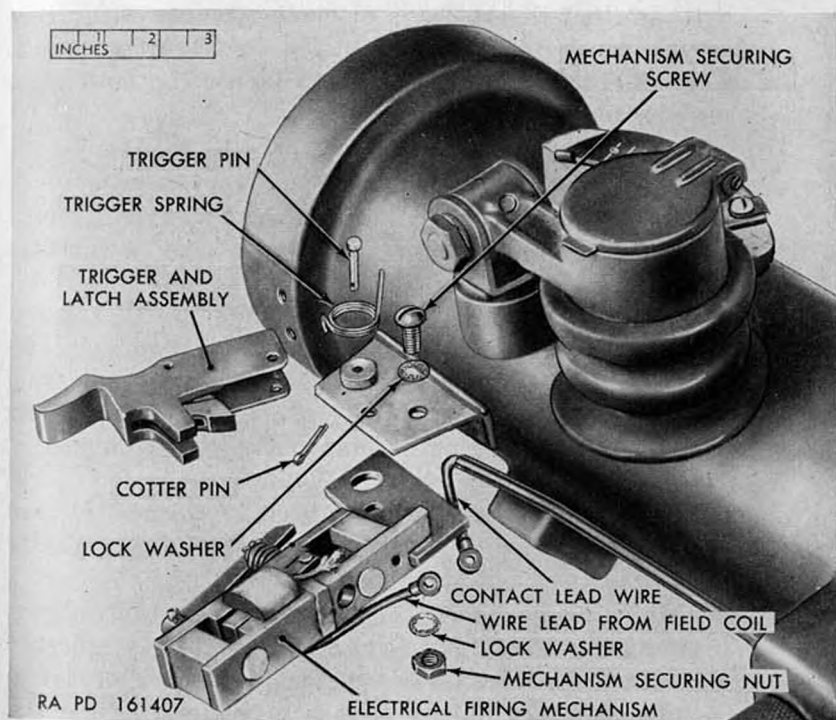

Figure 38. *Electrical firing mechanism 7140325 (removed from barrel).*
b. *Electrical Firing Mechanism 7140325 (Double Action)* (fig. 38).
- (2) Remove the cotter pin from the trigger pin and withdraw the trigger pin (fig. 38). This frees the trigger and latch assembly. Take care not to drop the trigger spring.
- (3) Unscrew the mechanism securing screw and nut which secure the firing mechanism to grip support of the rear barrel, take care not to drop the two lock washers.
should be checked for accumulation of dirt in the trigger slot; check the trigger spring (fig. 38) for serviceability. Firing mechanisms which have loose components, such as magnets or other critical parts, will be removed and returned to ordnance rebuild installations if otherwise serviceable.
b. Adjustment of Electrical Firing Mechanism 7140325 (fig. 38).
- (4) Oil the firing mechanism in accordance with paragraph 35d.
- (5) Install the safety switch in the left grip, with the tapered part of the switch contact upward.
- (6) Install the grips as outlined in paragraph 48.
- (7) Squeeze trigger several times to note smoothness of operation of firing mechanism. If operation is not smooth, discard and replace with a serviceable mechanism.
b. Electrical Firing Mechanism 7140325 (Double Action on Trigger Squeeze) (fig. 38).
- (1) Secure the firing mechanism to the grip support on the rear barrel.
- (2) Place the trigger spring around the bushing on the grip support and hook the spring around the grip support and into the "U" shaped slot of the bracket.
- (3) Place the upper end of the trigger over the trigger spring, the grip support, and support bracket of the firing mechanism, so that the holes in the trigger, the grip support, and the bracket aline. Insert the trigger pin and install new cotter pin.
- (4) Place the terminal of the contact lead wire and the terminal of the lead from the field coil over the hole in the firing mechanism. Solder as in a(3) above. Slip the screw through both terminals and secure it to the firing mechanism. Not all firing mechanisms 7140325 were equipped with lead terminals. These will have to be spliced, soldered, and wrapped with the rubber and friction tape. Tape covering must not be bulky.
- (5) Lubricate firing mechanism (par. 35e).
- (6) Install grips (par. 48b).